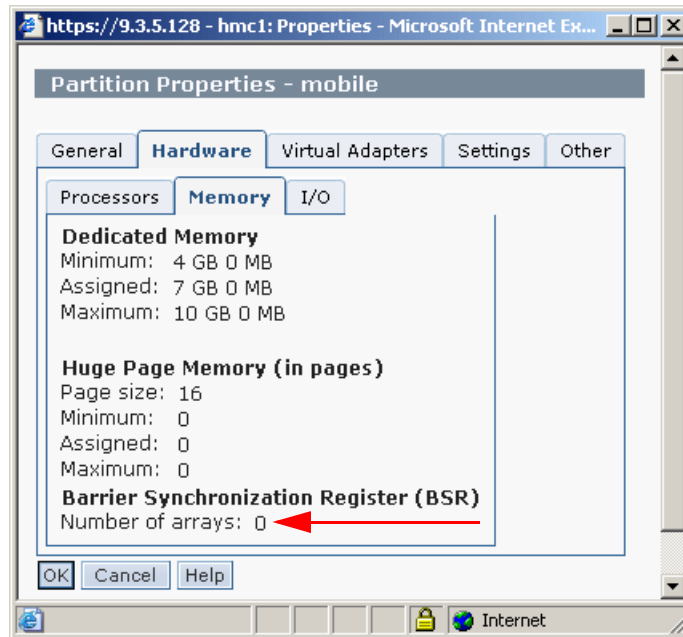

Figure 17-15 Checking the number of BSR arrays on the mobile partition
- If the number of BSR arrays equals zero, the mobile partition can participate in inactive or active migration, as shown in Figure 17-15. You can now continue with additional preparatory tasks for the mobile partition.